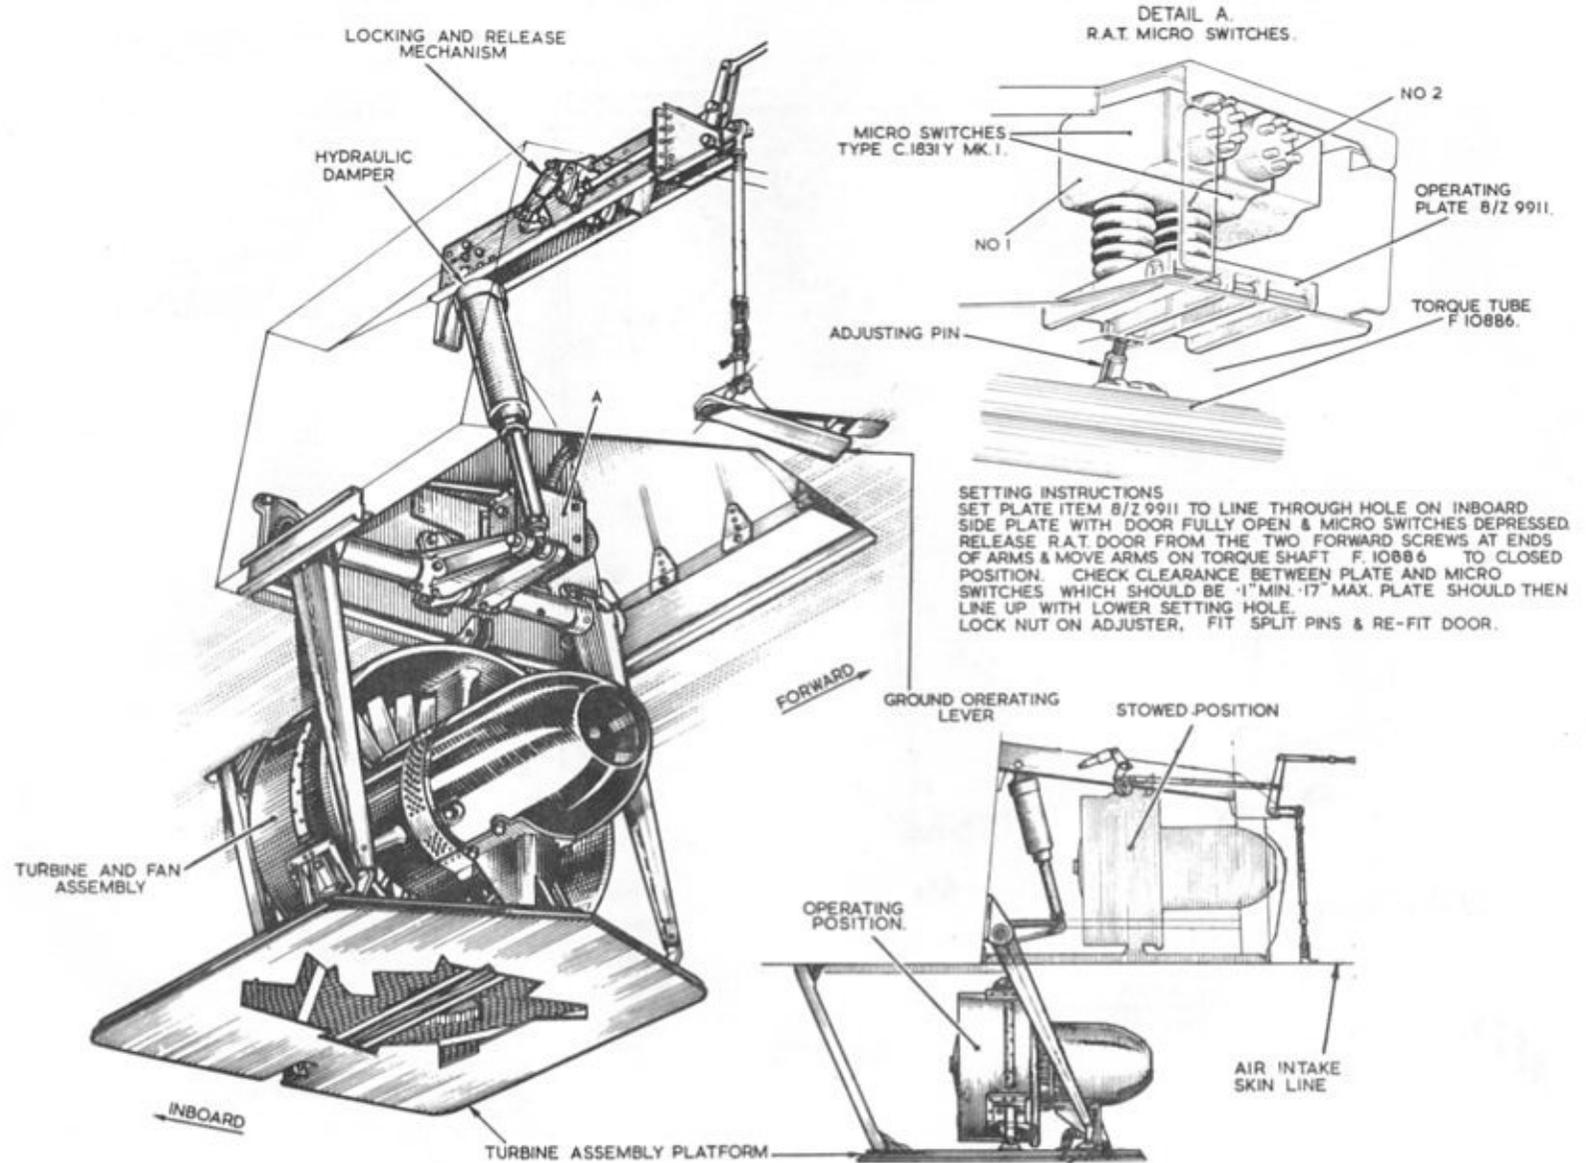

Fig.2 Ram air turbine
7. The R.A.T. is fitted in a compartment on the port side of the aircraft below the engine air intakes (fig.2) and is brought into operation when ejected into the slipstream. Ejection is effected by pulling a release handle above the pilots' coaming and would be selected instantly should failure of the four main alternators occur. A ground release lever, fitted flush with the aircraft skin, is located close to the R.A.T. stowage.